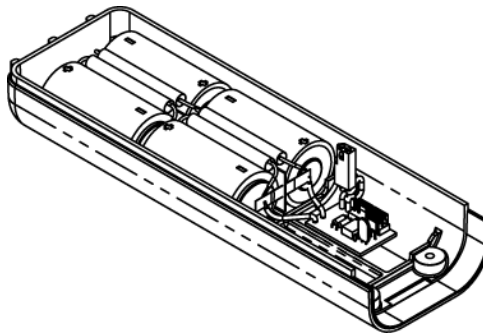

Figure 5 Battery Pack Assembly
- 4) The battery pack for the C406-2 Series ELT consists of four "D" size lithium manganese dioxide cells connected in series. To prevent the cells from being charged, diodes are connected across each cell and fuses are connected to the output. See Figure 5.